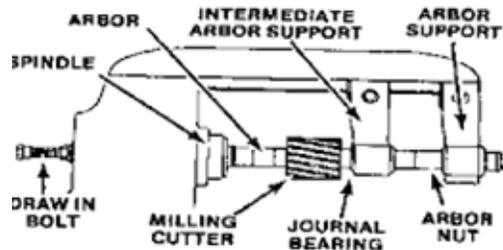

Figure Mill-5: an arbor
- Arbor: As in figure Mill-5. It is a shaft on which the cutting tools is hold with collets, and, it takes its movement from the main spindle.